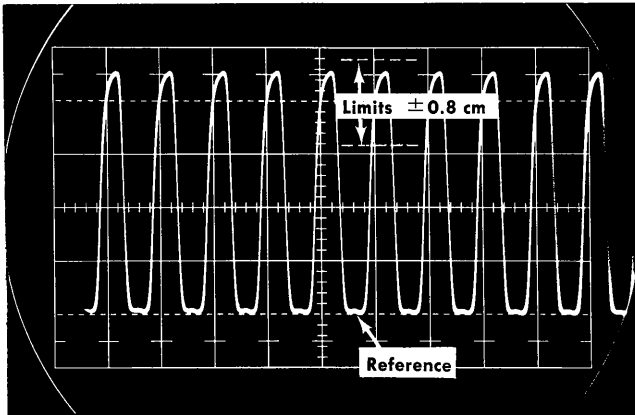

Fig. 5-5. Display of Trigger Output signal.
d. Set the Volts/cm switch to .05 and the Mode switch to CH 1. Set the Time/cm switch to .1  $\mu$ s and the Triggering controls for a stable display, see Fig. 5-5.